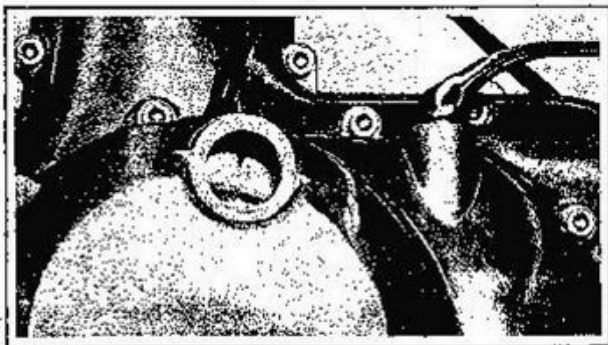

Figure 5F-12. Rotor Timing Retard (R) Mark (1973 and Later Models)
Remove ignition timing hole plug from left side crankcase cover. With engine operating at idle (1200 to 1500 RPM) retard timing mark (R) on rotor should appear in center of crankcase cover view hole as shown in Figure 5F-12. With engine operating at 5000 RPM the advance timing mark (A) on rotor should appear in view port. The rotor is also marked with a piston top dead center mark (O). Advanced timing is not as critical as retarded timing, however, if advance mark does not appear in hole with retarded timing set correctly, automatic spark advance assembly should be inspected for proper operation and replaced if necessary.